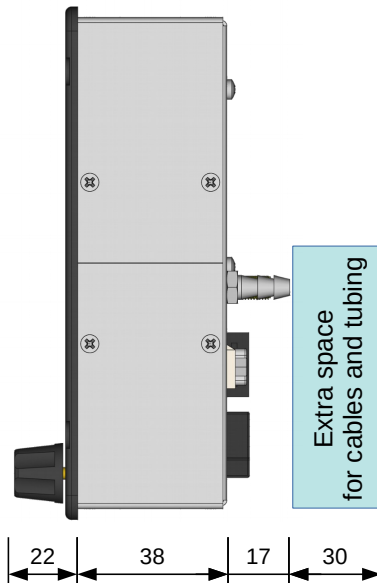

Figure 2.1: Aetos side view with dimensions.
- The display housing extends behind instrument panel and some extra space must also allocated for the connectors, cables and tubes. See Figure 2.1 for more details.
The display main dimensions are shown on Figures 2.1 – 2.3 and Figure 2.4 shows the cutout.